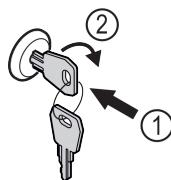

Fig. 243
- Insert the key. Fig. 243 (1)
- Turn the key clockwise by 90°. Fig. 243 (2)